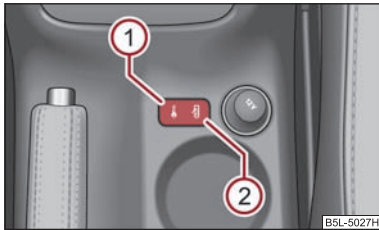

Fig. 26 Centre console: Central locking system
- Press button ① ⇒ fig. 26. The symbol  in the button comes on.
- Press button ② ⇒ fig. 26. The symbol  goes out in the button.